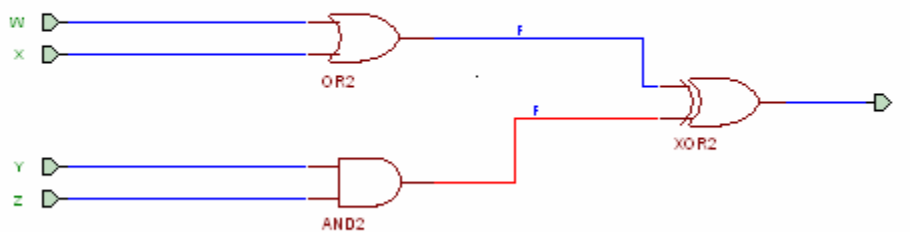

Figure 3
- Two nets on the same level of hierarchy that you want to be distinct will actually be connected if you give them the same name. The circuit in Figure 3 will not work because both the OR2 gate and the AND2 gate drive the same net.